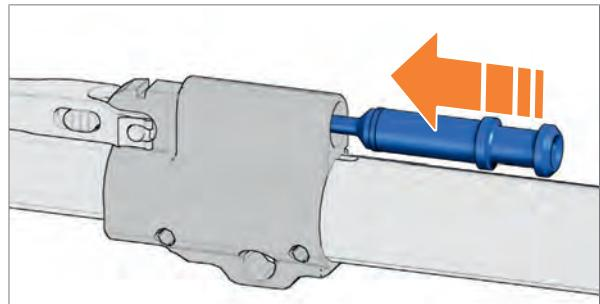

Fig. 119: Insert gas piston
1. Insert gas piston into the gas block (Fig. 119).